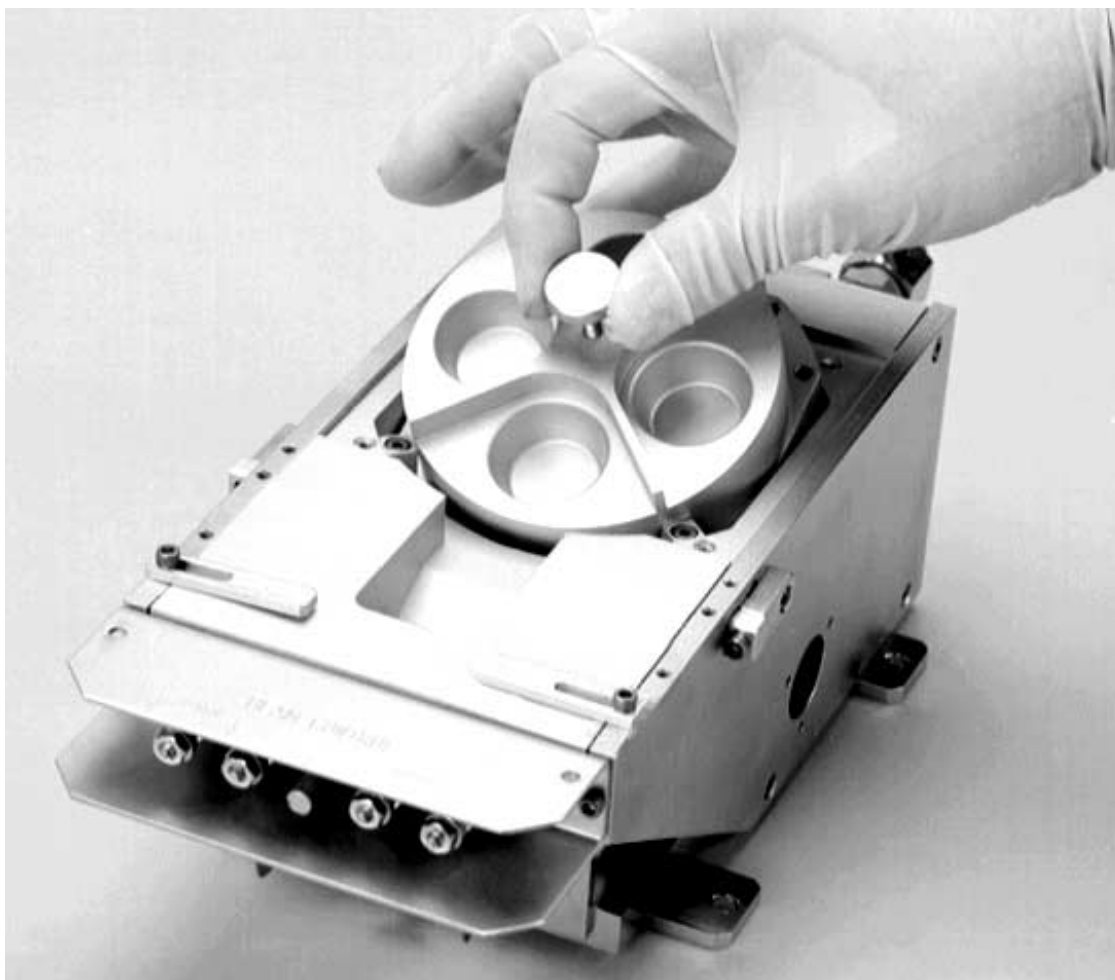

Figure 3-8. Removing the crucible from the source. Note angle of withdrawal
- (c) Pull the crucible clear of the coil housing by angling it upward and backward at the same time, as shown in Figure 3-8. Be very careful at this point not to scrape the crucible's O-ring-sealing surface on the water baffle.
| 2 | Angle the crucible into the position shown in Figure 3-8. Then lower its rear end so that its bottom surface is horizontal, and lower it straight down onto the O-ring. |